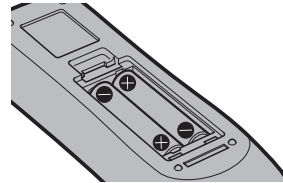

Fig. 2
- 2) Insert batteries and close the cover (insert the "-" side first). (Fig. 2)